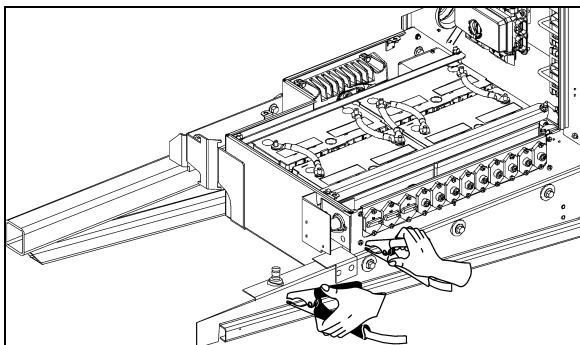

FIGURE 31: BOOSTER BLOCK
On X3-45 coaches, booster block is located near the batteries in the engine compartment on the R.H. side and is accessible through engine R.H. side door (Figure 31).
1. Connect one end of one red jumper cable to the positive (+) terminal of the booster power source and the other end to the positive (+) post of the booster power block, located on the R.H. side of the engine compartment (refer to Figure 31).